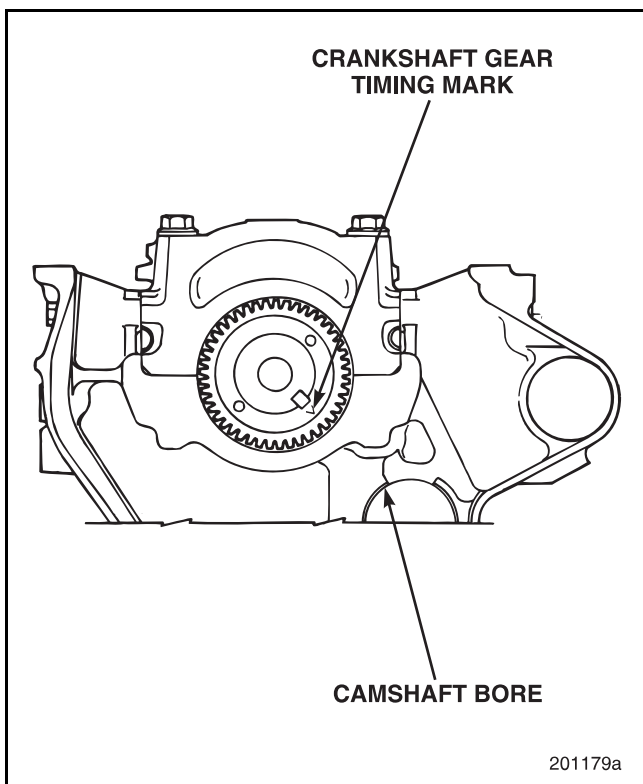

Figure 6-44 — Crankshaft Drive Gear Alignment
2. Rotate the crankshaft so that the drive gear timing mark is aligned with the camshaft opening. Refer to Figure 6-44.
1. Rotate the crankshaft so that the drive gear timing mark on the drive gear is aligned with the camshaft opening. Refer back to Figure 6-44.